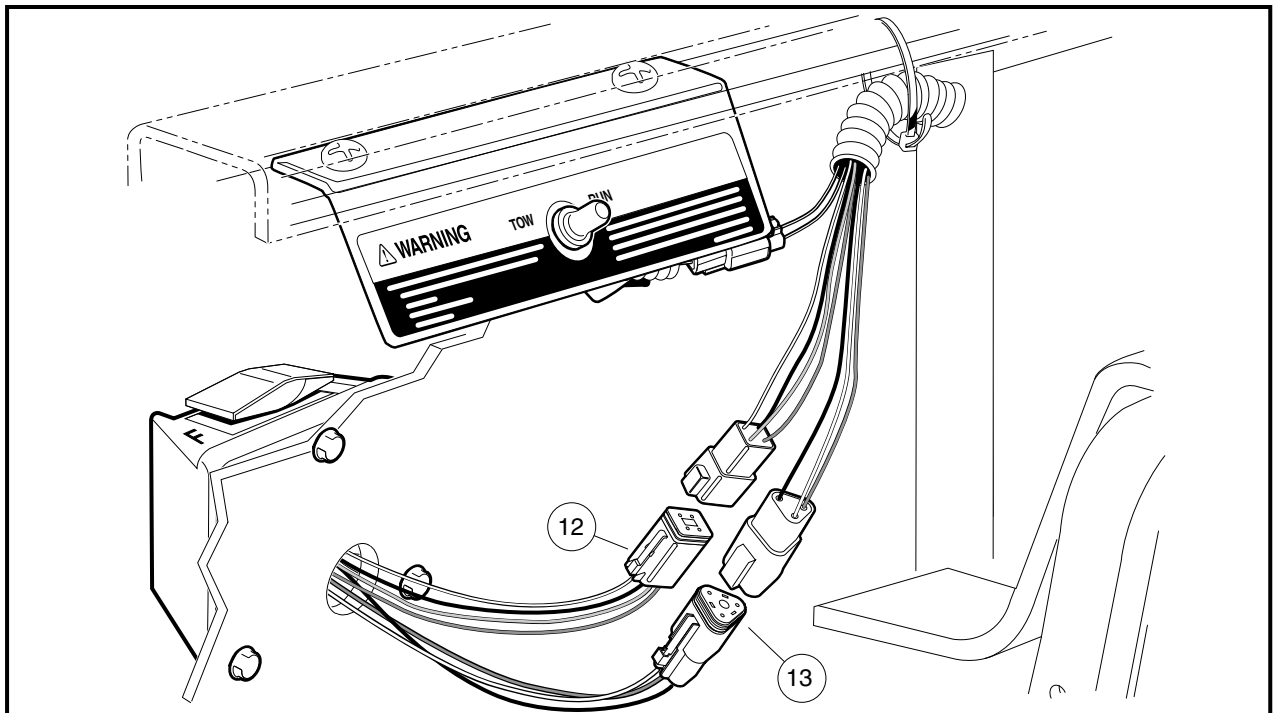

Figure 4-9 IQ System Forward/Reverse Switch
- 12.1. Disconnect the four-pin connector (12) and the three-pin connector (13) from the Forward/Reverse switch (**Figure 4-9, Page 4-9**).
- 1.10.1. Connect the four-pin connector (12) and the three-pin connector (13) to the Forward/Reverse switch (**Figure 4-9, Page 4-9**).